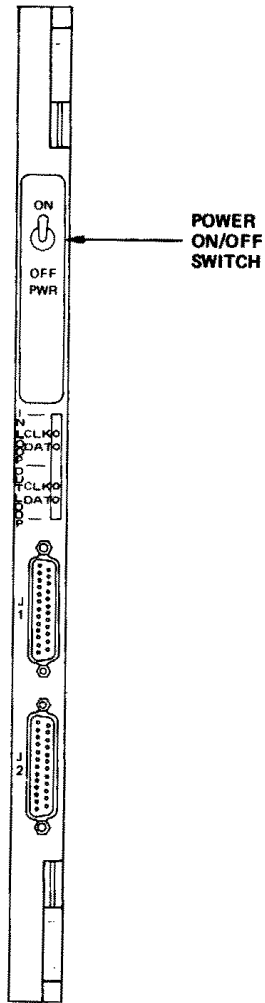

Figure 2-1. Loop Multiplexer Circuit Card PWR ON/OFF Switch Location
2. On the loop multiplexer circuit card, set the power (PWR) switch to ON. See figure 2-1.